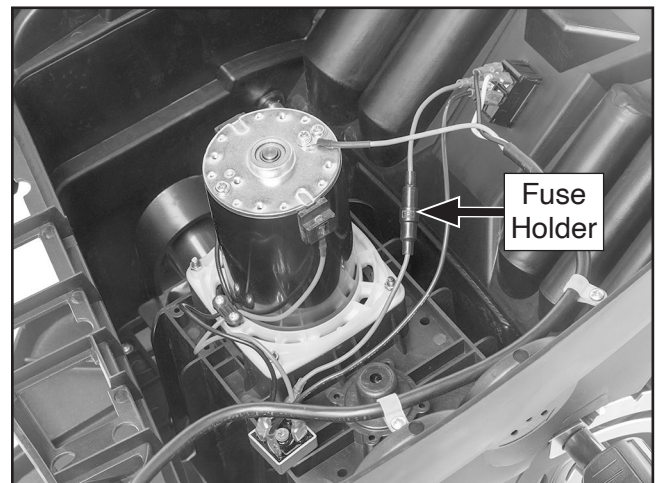

Figure 50. Location of fuse holder.
4. Twist either side of fuse holder counterclockwise to open (see **Figure 50**).